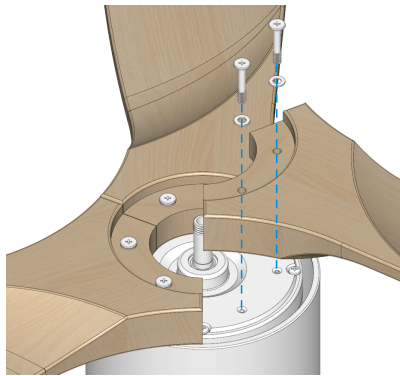

Fig. 1.1
1.1 Locate 6 blade attachment screws and washers in the hardware pack. Make sure each blade matches the corresponding place of the motor hub and tighten with the screws and washers as shown in Fig.1.1.